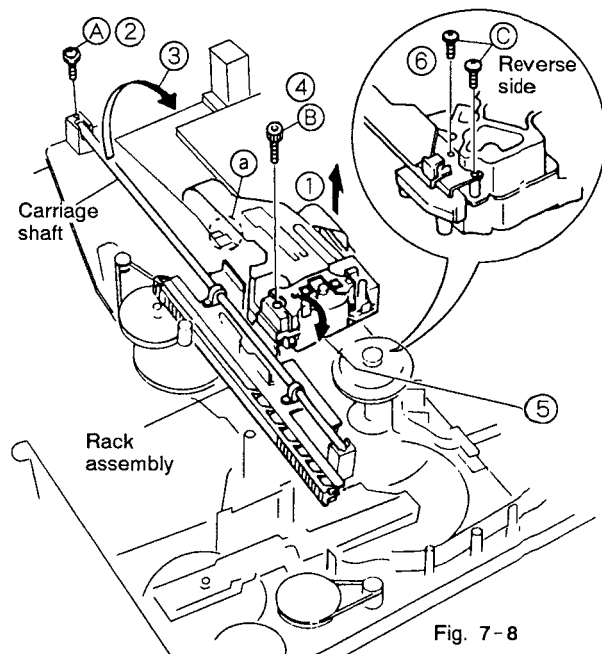

Fig. 7-8
**7.6 REMOVING THE PICKUP ASSEMBLY (Fig. 7-8)**
- ① Remove the flexible cable from the connector and also remove the flexible cable installed at section (a).
- ② Remove a screw (A) holding the carriage shaft.
- ③ Raise the shaft in the direction of the arrow to remove the rack assembly.
- ④ Remove a hexagonal screw (B) and lift up the pickup assembly lightly and turn the pickup assembly in the direction of arrow (5).
- ⑤ Remove two screws (C) on the back of the pickup assembly.